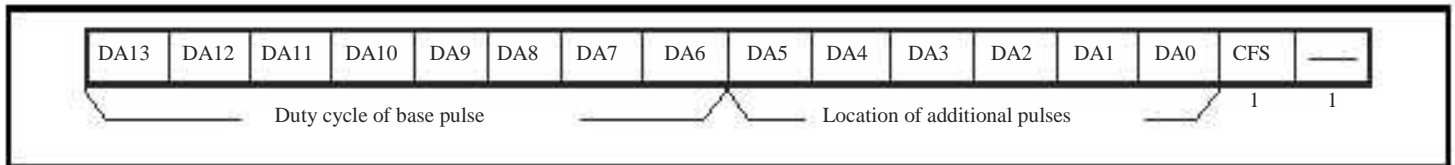

Figure 10.5 D/A Data Register Configuration when CFS = 1
An example of the additional pulses when CFS = 1 (base cycle = resolution (T) · 256) and OS = 1 (inverted PWM output) is described below. When CFS = 1, the upper eight bits (DA13 to DA6) in DADR determine the duty cycle of the base pulse while the subsequent six bits (DA5 to DA0) determine the locations of the additional pulses as shown in figure 10.5.